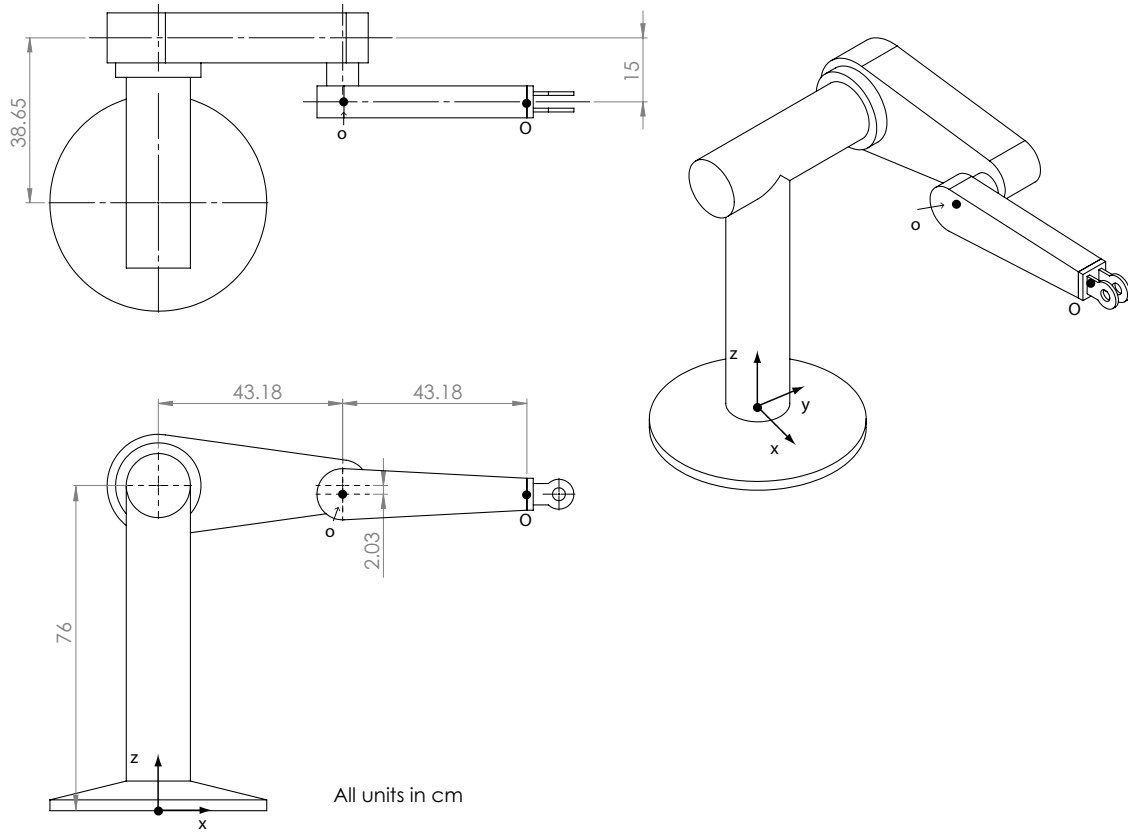

Figure 1: Schematics of the PUMA560 robot
The PUMA (Programmable Universal Machine for Assembly) is a robot developed by Unimation in the late 1970s for industrial automation in General Motors plants. This robot was particularly well-designed, mechanically robust, and very reliable, so much so that it remained in production for twenty years even after Unimation was bought out. In this lab you will familiarize yourself with the kinematics of the PUMA 560, depicted in Figure 1. This is an articulated robot with six joints, the last three of which are a spherical wrist.
2. Based on your frame assignment, and the lengths marked on Figure 1, write down the 6×4 DH table of the PUMA 560 robot, assuming that the wrist length is $d_6 = 20\text{cm}$ and that $x_4 = -z_3 \times z_4$.